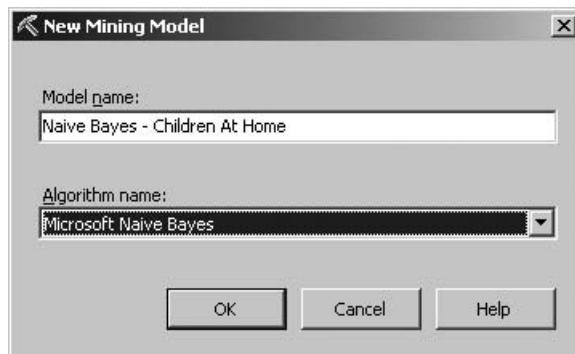

Figure 14-14 *The New Mining Model dialog box*
46. Select Microsoft Naïve Bayes from the Algorithm name drop-down list. The New Mining Model dialog box appears as shown in Figure 14-14.